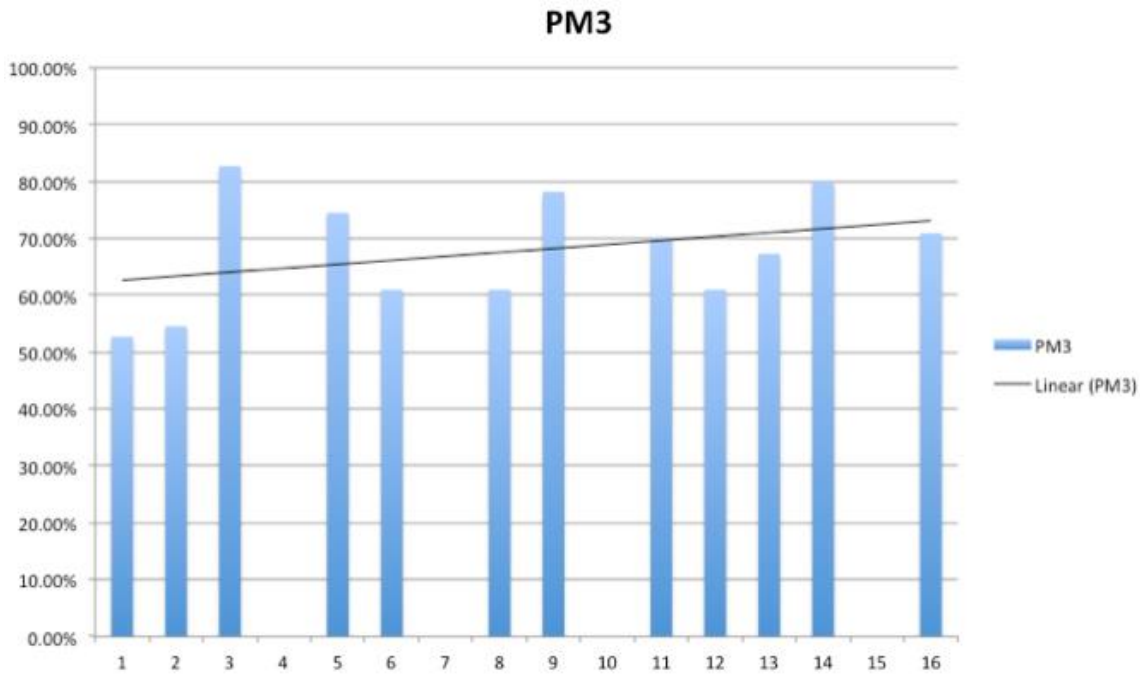

Figure 2: Shutdown Critique Score trend
- Shutdown on time improved - See Figure 2 for critique score trend.